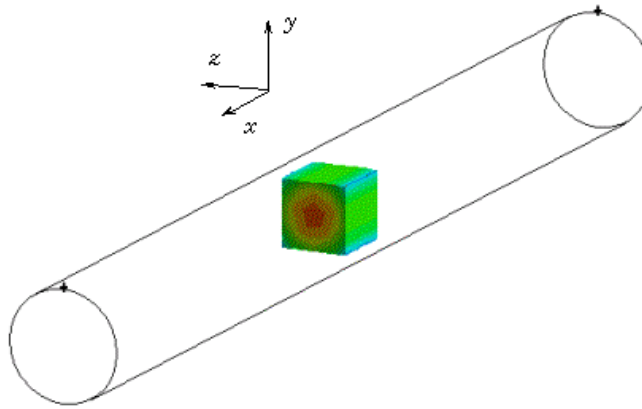

Figure 9.5.2: Cube Postprocessing Object
A cube is a postprocessing object in the shape of a cube. Using a cube postprocessing object, you can display solution results on a cubic volume. Figure 9.5.2 shows banded velocity contours displayed on a cube in a pipe model. The color gradation on this object illustrates that velocity is greater in the center of the pipe than it is near the walls.
- A **Volume** attachment entity displays a three-dimensional, cubic volume as shown in Figure 9.5.2.